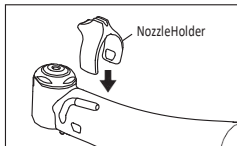

Fig.6
1) Attach the Nozzle Holder. (Fig.6)